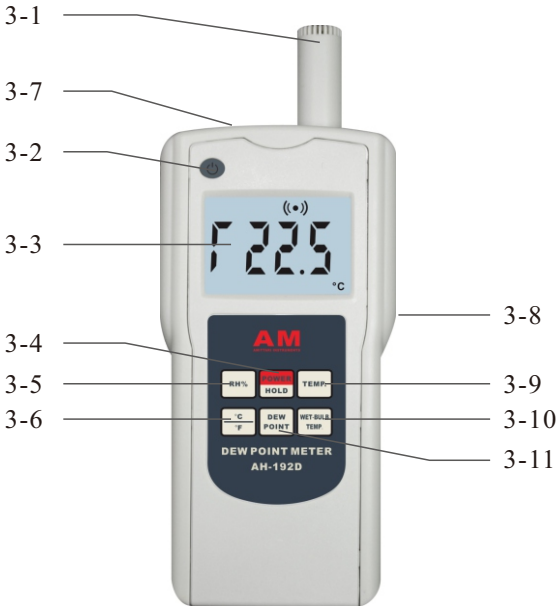

Fig. 1
8.1 Slide the Battery Cover (Fig. 1 , 3-8) away from the instrument and remove the batteries.